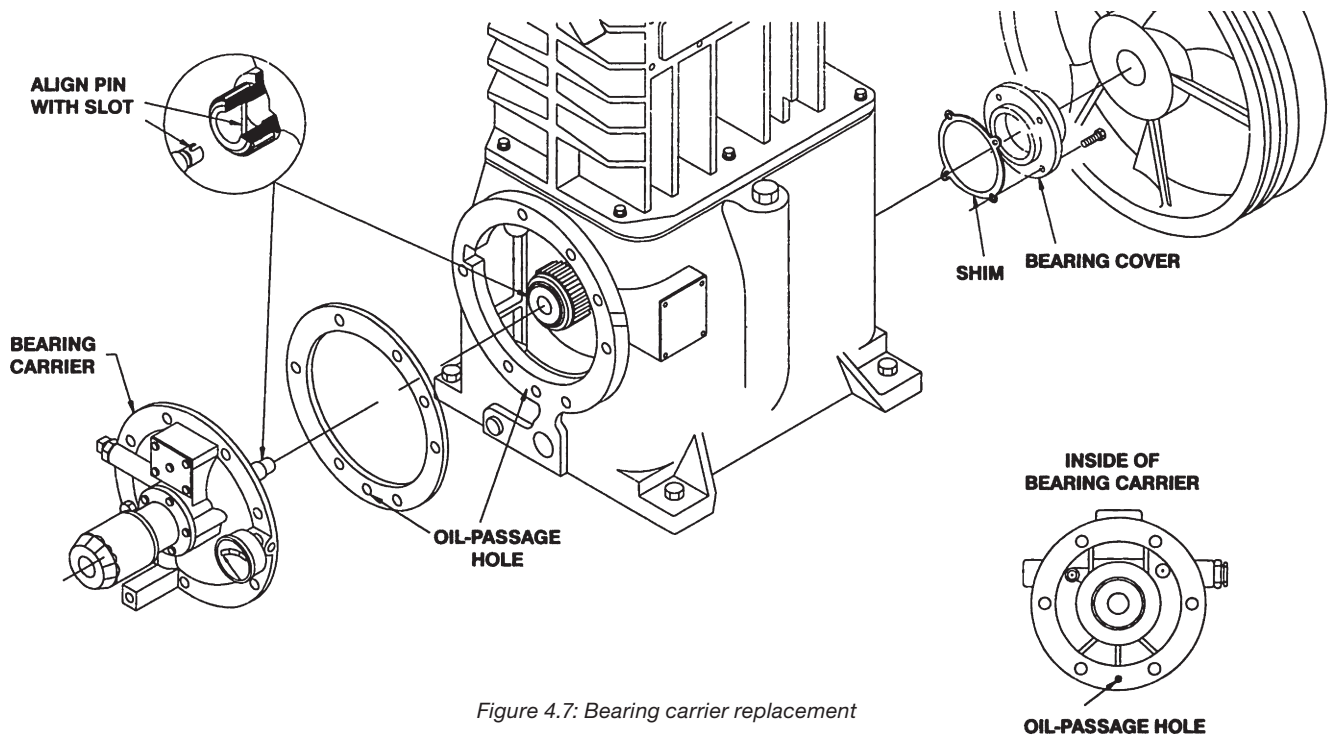

Figure 4.7: Bearing carrier replacement
2. Press the new bearings into position and reassemble the crankshaft and bearing carrier to the crankcase. When reinstalling the bearing carrier, make sure the oil pump shaft slot is aligned with the pin in the crankshaft. Make sure to install the bearing carrier gasket so the oil passage hole is not blocked (see figure 4.7).